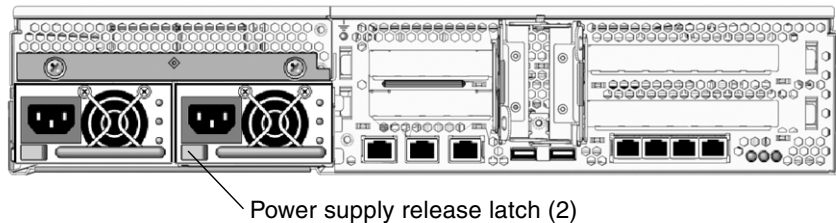

FIGURE 3-25 Power Supply Release Latches – Sun Fire V245
5. Remove the power supplies from the chassis (FIGURE 3-25).